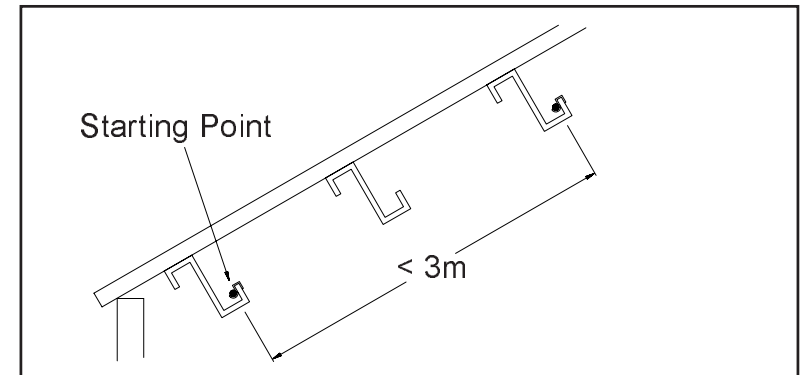

Figure 13
i.e. nearest to the eaves of the building and work upwards towards the apex of the roof. See Figure 13.